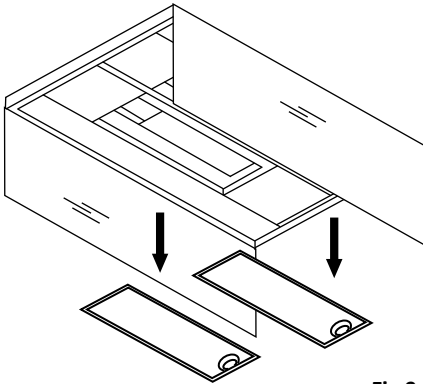

Fig 9
- Remove the grease and charcoal filters from inside the hood (**Fig 9**).